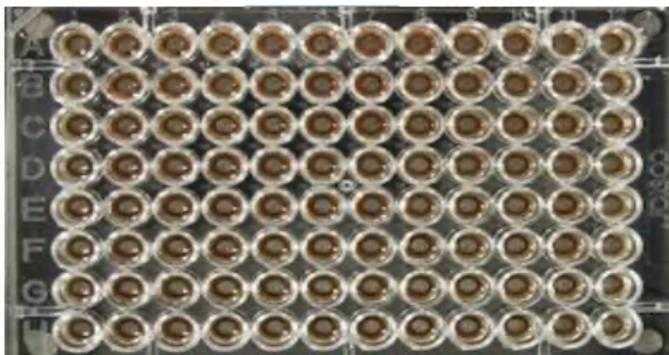

Figure 5: Extraction plate during wash step on magnetic plate.
10. After the 5 minute incubation, remove as much of the 400  $\mu$ L of the supernatant as possible. Be careful not to disturb or aspirate the beads. See Figure 5.